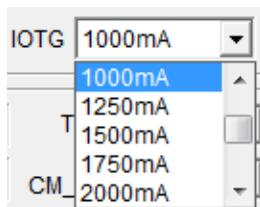

Figure 20: OTG Output Current Limit Configuration
- Set the OTG output current limit (see Figure 20).